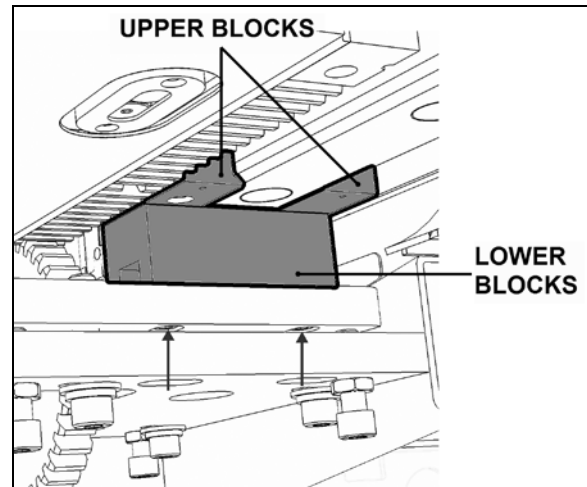

**FIGURE 28: RAIL POSITIONING**
The rail is bolted to a flat bar on which weldnuts are mounted. The flat bar is inserted in the slide-out lower body extrusion and can be removed through the end cap (Figure 28).
8. Adjust the rail position per Figure 28. For each rail, make sure the gap is the same on both sides of the rail. Use acetal blocks to inspect the gap.